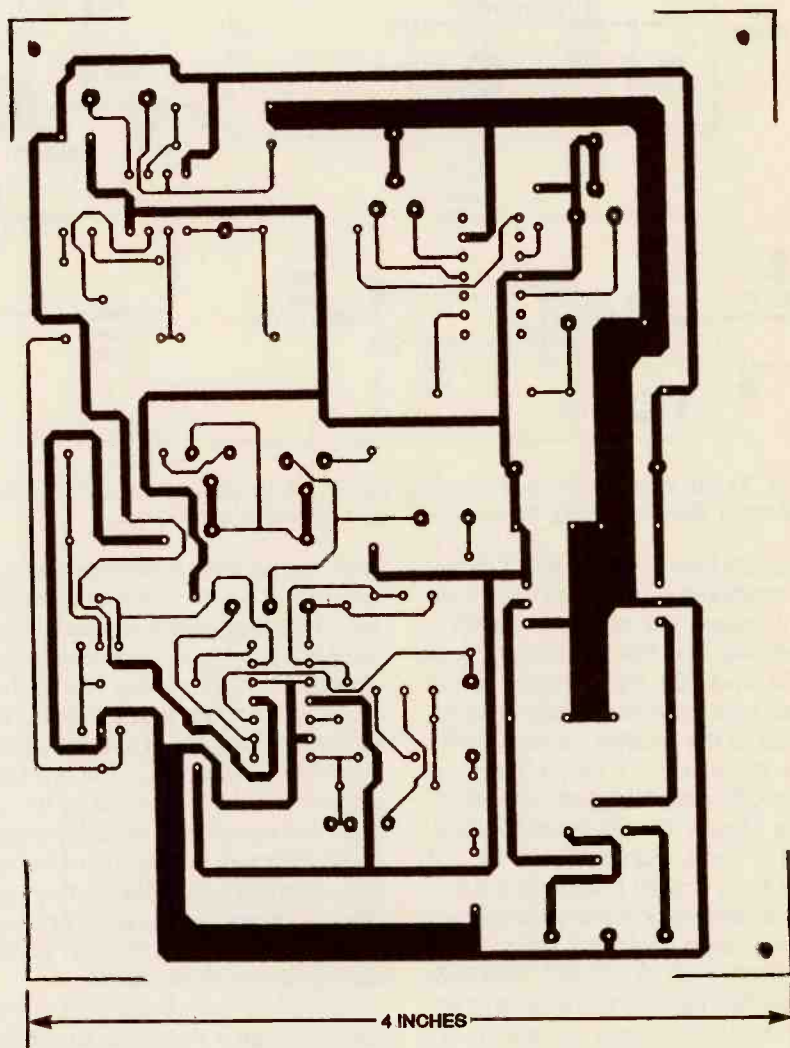

Fig. 2. The PC-board template for the Tester is shown here in its full size of 4 x 5 inches.
**Construction.** The method chosen to build the Frequency-Response Tester is not critical; however, the easiest method is to use the single-sided PC-board layout provided in Fig. 2. If you're looking for a good PC-board project to try, the Tester PCB is an excellent choice because it is both single-sided and reasonably low in component density. When cut to the size shown, the board fits comfortably within the widely available metal enclosure noted in the Parts List.